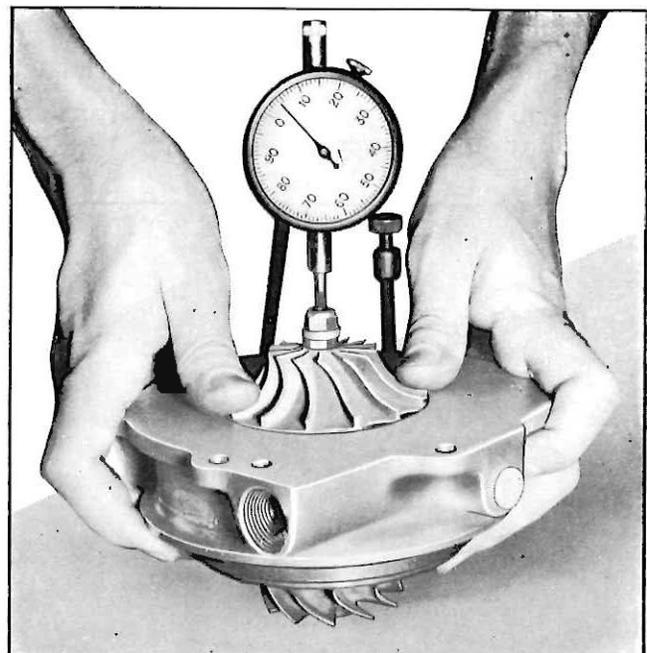

Fig. 12—Gauging Turbine Shaft End Play
- a. Attach a dial indicator to the bearing housing so that indicator point is resting on the impeller nut (fig. 12).